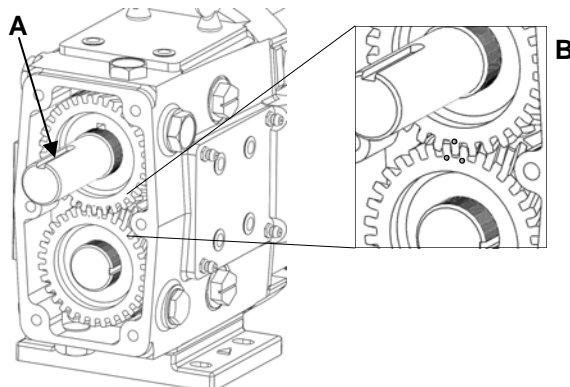

Figure 57: Installing Gears with Correct Timing
8) Once the gear keys are installed, orientate the shafts so that the keyways on the drive shaft are pointing in the 12 o'clock direction (Figure 57, A). Slide the right-handed gear with the single punch mark onto the drive shaft. Slide the second gear with two punch marks on the short shaft. To time the gears, align so that the single punch mark falls between the two punch marks on the opposite gear (Figure 57, B).